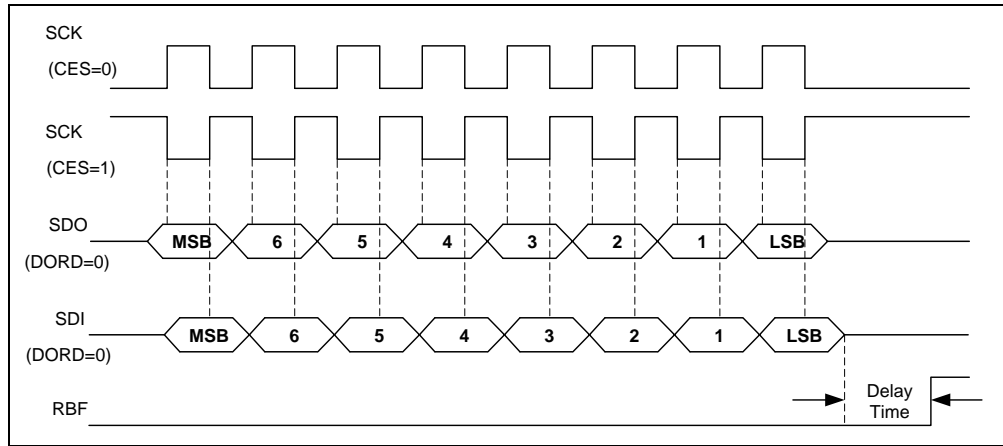
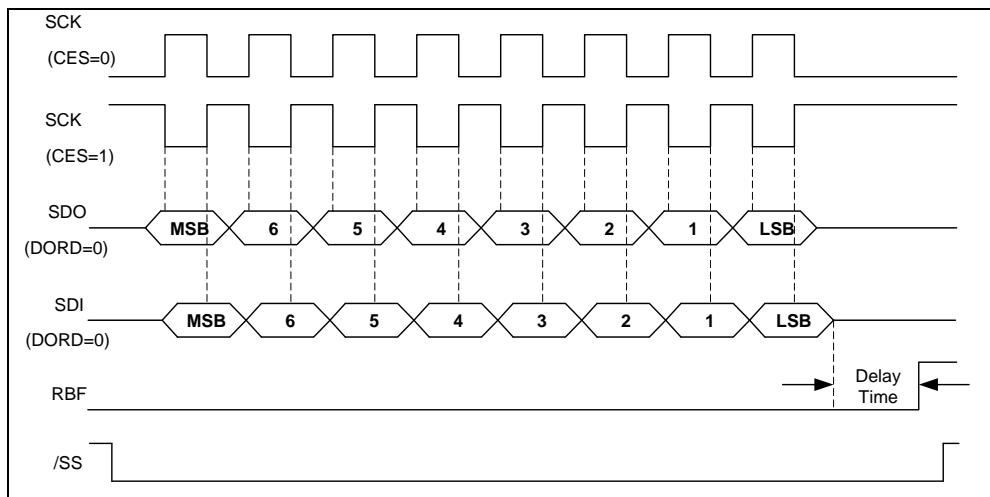

Figure 6-23 SPI Mode with /SS Disabled
Figure 6-24 SPI Mode with /SS Enabled
- Timing is shown in Figures 6-23 and 6-24.
The SCK edge is selected by programming bit CES. The waveform shown in Figure 6-23 is applicable regardless of whether the EM88F712N is in Master or Slave mode, with /SS disabled. However, the waveform in Figure 6-24 can only be implemented in Slave mode with /SS enabled.